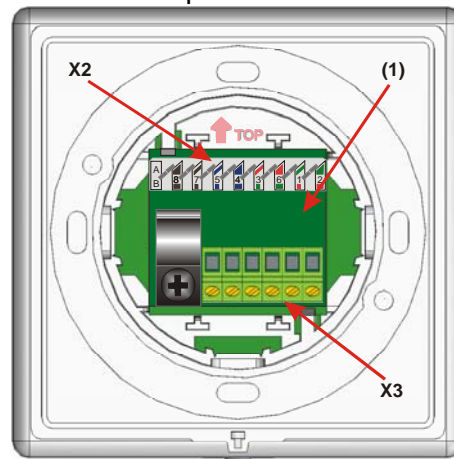

Fig. 4 Backside view with the fitted connection board (1)
- Snap in the connection board from the back side into the lower casing (see Fig. 4)